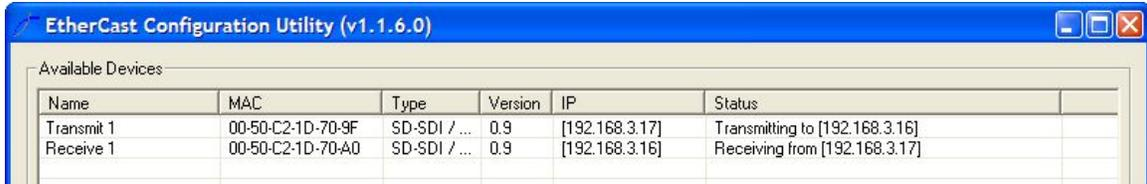

Figure 6: Main Dialog Controls Panel with Added Configuration for IP Network Receiver
- 7) Check to see if the changes have been captured on the engine by selecting 'Detect Devices' once again from the Main Dialog Controls panel. The panel should look like the example in Figure 6. The engine should have a name (Receive 1, in this example), a MAC address, an IP address, and should be configured to receive from a second engine (the IP network transmitter) with a different IP address. If your changes have not been implemented, review the instructions. You may not have correctly applied the settings to the engine or saved the settings to flash.